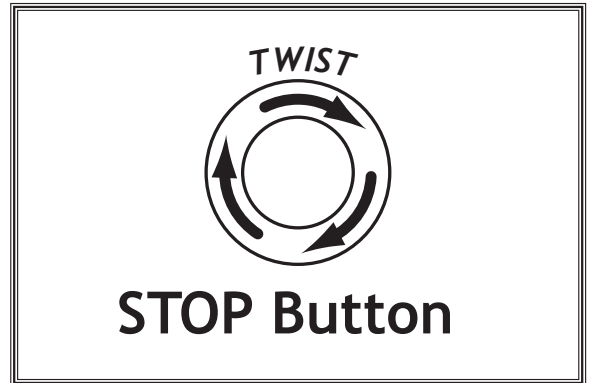

Figure 14. Resetting the switch.
4. Twist STOP button clockwise until it springs out (see **Figure 14**). This resets the switch so the machine can start.